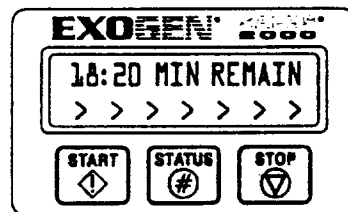

Fig. E.7
- g. Press the “Start (◊)” button again within this 5 seconds to start the 20-minute treatment session. The display indicates the remaining time of the 20-minute treatment period (Fig. E.7). The green light on the back of the THM will light indicating that the THM is emitting ultrasound. **The device will shut off and the display will be blank if you do not press the “Start (◊)” button again within this 5 seconds and steps E.1.a through E.1.e must be repeated.**